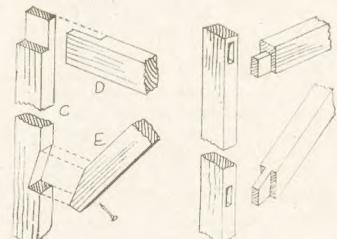

Fig. 5—Angle joints
Each bracket consists of an upright (C), a top rail (D) and the support (E), and wood $1\frac{1}{2}$ ins. by $\frac{1}{2}$ in. in section is suitable for all these parts. Two methods of framing the rails together are shown in Figs. 5 and 6. In the former figure, the rails (C) and (D) are halved together, and the support (E) recessed into (C).
Fig. 5 shows how to mount the mirror, which can be 1½ins. to 2ins. diameter. A piece of wood just a little larger than the mirror is used to hold it secure, and it can be let into the wood so that it is flush with the top—a spot of glue will hold it in place.
The mirror is now fitted into what is called a 'gimbal' mount, which will enable it to be twisted into any position. A strip of stout brass bent to the shape shown in Fig. 5 is fixed to the centre of the mirror block with round head screws. The other swivelling motion is given to the gimbal by screwing the centre of the strip to a short block of wood, which in turn slides down the microscope stem and takes its position near its base.